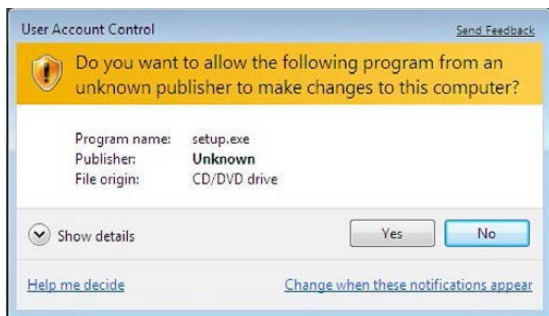

Figure 3. Evaluation Software Installation—User Account Control
3. A dialog box appears asking for permission to allow the program to make changes to your computer. Click **Yes** to begin the installation process (see Figure 3).